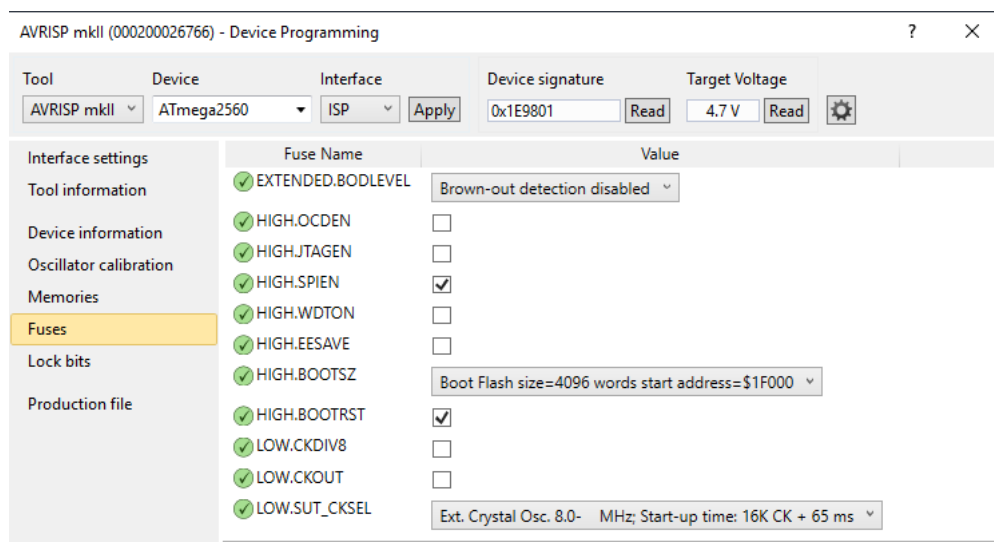

Figure 6: Device Programming dialog box in Atmel Studio 7
6. Open the Atmel Studio 7 software. Select the option **Device Programming** or use the shortcut **Ctrl + Shift + P**. A dialog box will open as shown in Figure 6.
13. Go to **Fuses** and select the Fuse settings as shown in the Figure 6.
14. Make sure that the option of **Auto read** and **Verify after programming** are selected as shown in Figure 6.
16. After the programming is complete, you will see the message as shown in the below Figure 6.